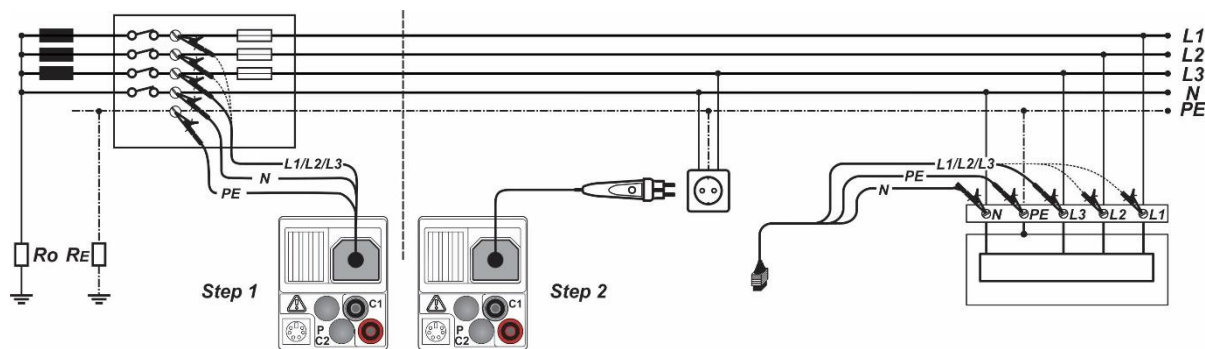

Figure 6.4: Auto-sequence setup
- ❑ **Connect** the test leads to the origin of electrical installation (see Figure 6.4 – step 1) (optional).
- ❑ **Connect** test leads to the item to be tested (see Figure 6.4 – step 2).